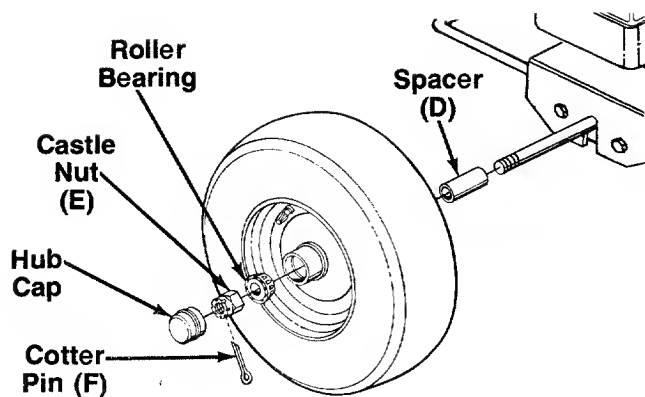

FIGURE 3.
3. Place one spacer (D) on each axle, then one wheel and a tapered roller bearing. See figure 3.
4. Thread hex castle nuts (E) on axle. Using an adjustable wrench, tighten castle nuts until snug, then back off approximately 1/3 turn, or until one of the slots on the castle nut lines up with hole in axle.
5. Insert cotter pins (F) through slot in castle nuts and holes in axle. Secure by bending the ends of the cotter pins in opposite directions, using a pair of pliers.